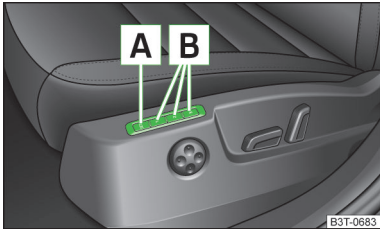

Fig. 70
The memory function for the driver's seat provides the option to store the positions of the driver's seat and the external mirrors. Each of the three memory buttons **B** » Fig. 70 can be assigned a set position.
- › Press the button **SET** **A** » Fig. 70.
- › Press the required memory button **B** » Fig. 70.
- › Briefly press the desired memory button **B** » Fig. 70 with the ignition on.
- › Press and hold any memory button **B** » Fig. 70 on page 82. After the seat has assumed the position stored under this button, at the same time press the button **⏏** on the remote control key within 10 seconds.
- › Press and hold the **(SET)** button **[A]** » Fig. 70 on page 82. At the same time, press the button **[B]** on the remote control key within 10 seconds.